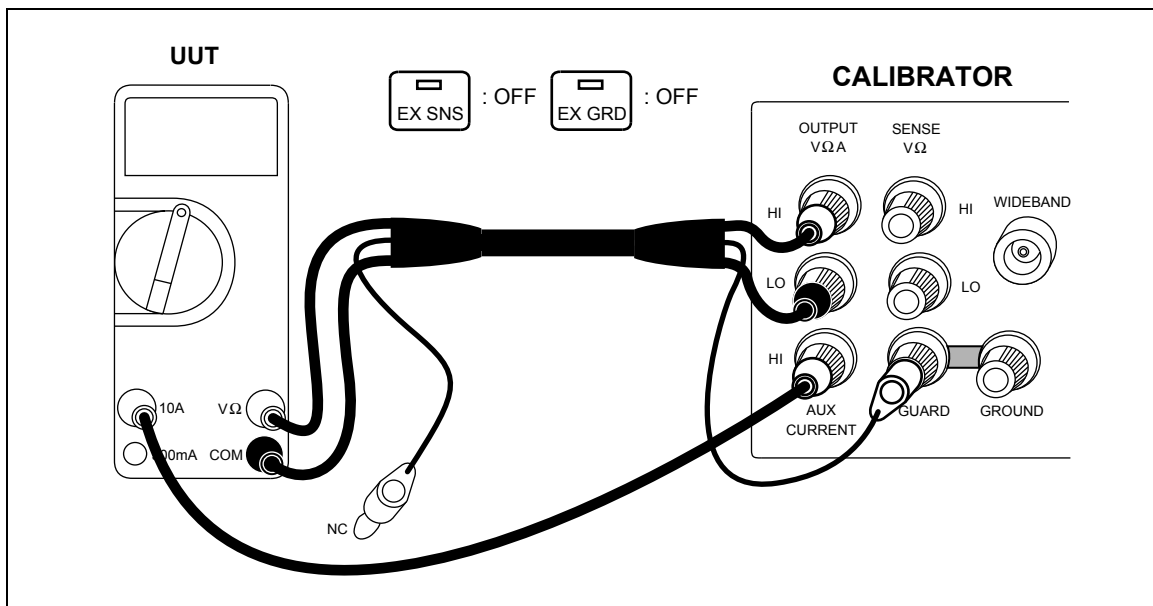

Figure 4-11. Cable Connections for Testing a Fluke 70 Series Multimeter
- a. Verify that the calibrator is in standby and connect the meter as shown in Figure 4-11.